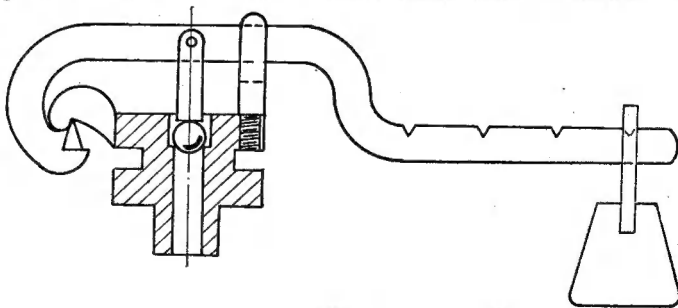

Fig. 3
■ design given in THE MODEL ENGINEER many years ago, but Fig. 3 shows ■ more correct design. It will be noted that the lever pivot, valve seating and weight suspension are on a straight line. A knife-edge joint replaces the